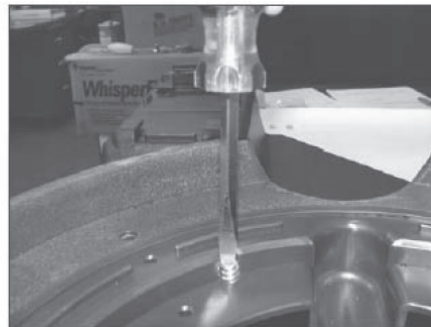

Figure 5.
- I. Using a flat-head screw driver, drive the  $\frac{1}{4}$ -20 brass inserts into the holes in the system base. Note: The blade of the screw driver must be wide enough to catch both slots in the end of the insert. See Figure 5.